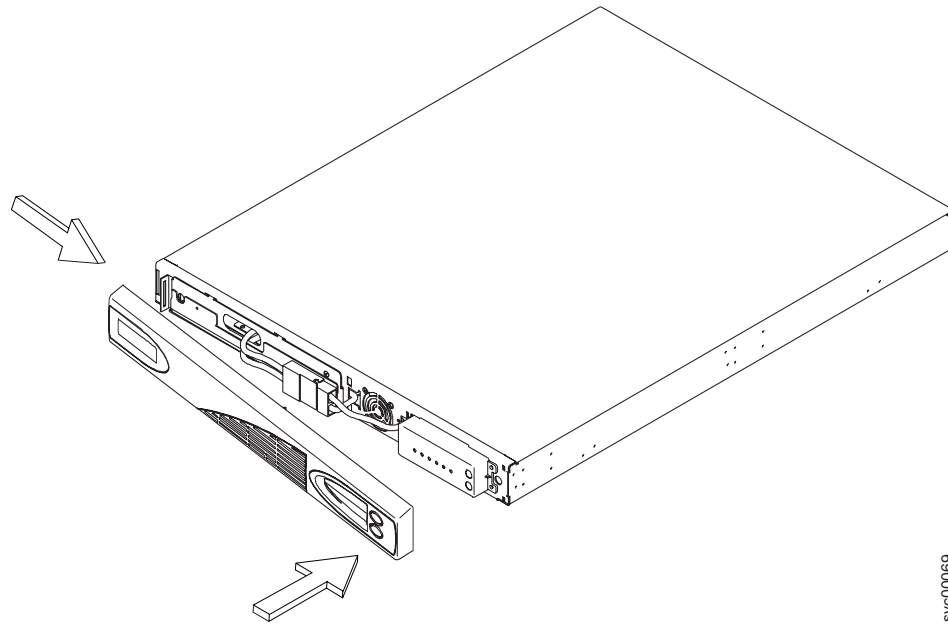

Figure 139. Replacing the 2145 UPS-1U front panel
4. Push the front panel to the right to catch on the left end of the panel. Push the front panel forward until the panel snaps into the right and middle sections of the 2145 UPS-1U. See Figure 139 on page 303.